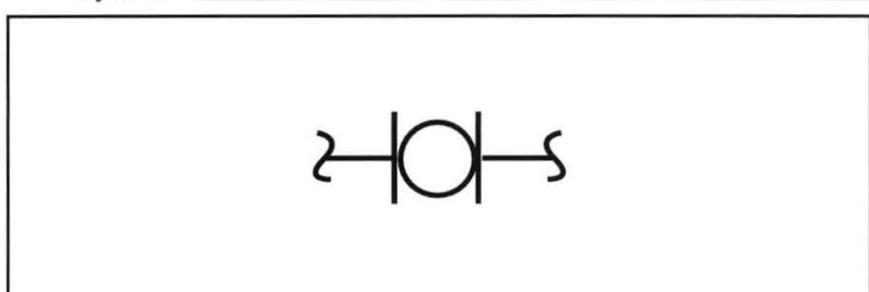

Figure 31. Valve Symbol
9. Determine the type of valve or actuator symbol depicted in figure 31.